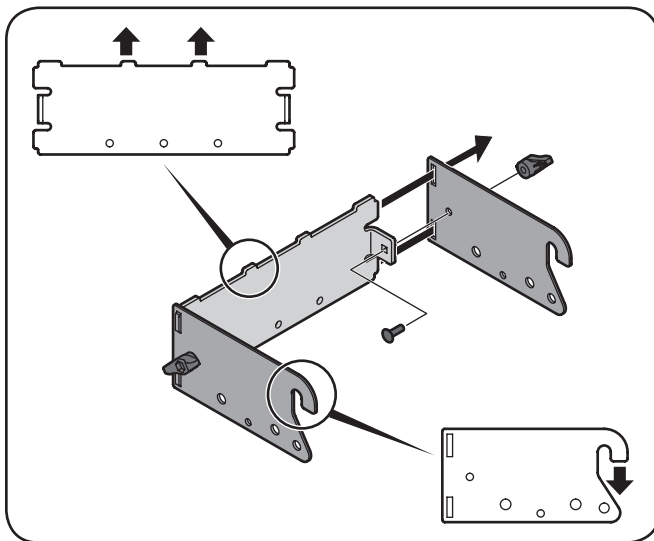

Figure 4-1
Note: The hooks on the side brackets should point downwards and the tabs on the rear plate point upwards as shown in Figure 4-1.
2. Flip over assembly and mount the hitch support bracket to the mounting assembly as shown in Figure 4-1.